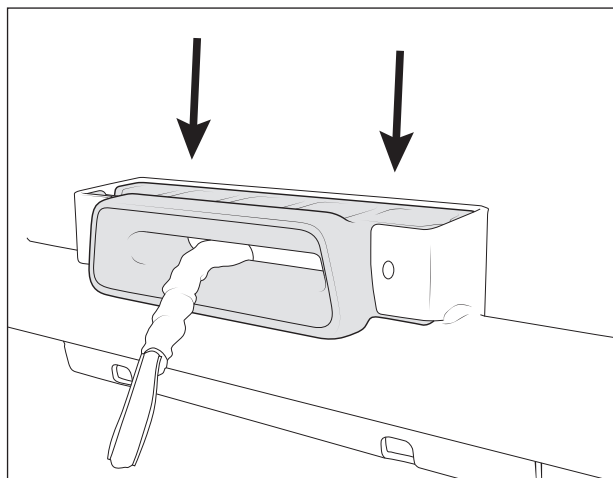

Figure 21
15. Run the winch cable through the Bison fairlead and drop into place (fig. 21).